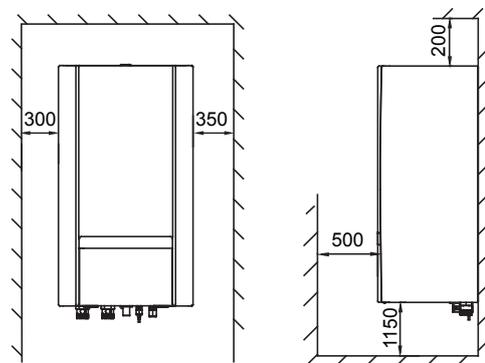

Fig.6-3
- The space around the unit is adequate for serving, see figure 6-3.
- Required service space, see figure 6-3.